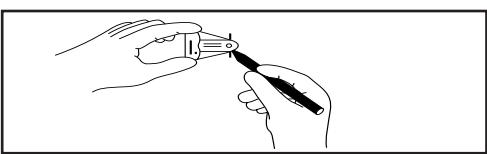

FIGURE 8
- e) When the magnet on the MAGNA-FINDER™ is perpendicular to the base of the MAGNA-FINDER™, mark the tissue with a surgical marker at the two notches on the base of the MAGNA-FINDER™. The line between these two marks indicates location of one plane, as shown in Figure 8. The MAGNA-SITE™ will be at one point along this plane.